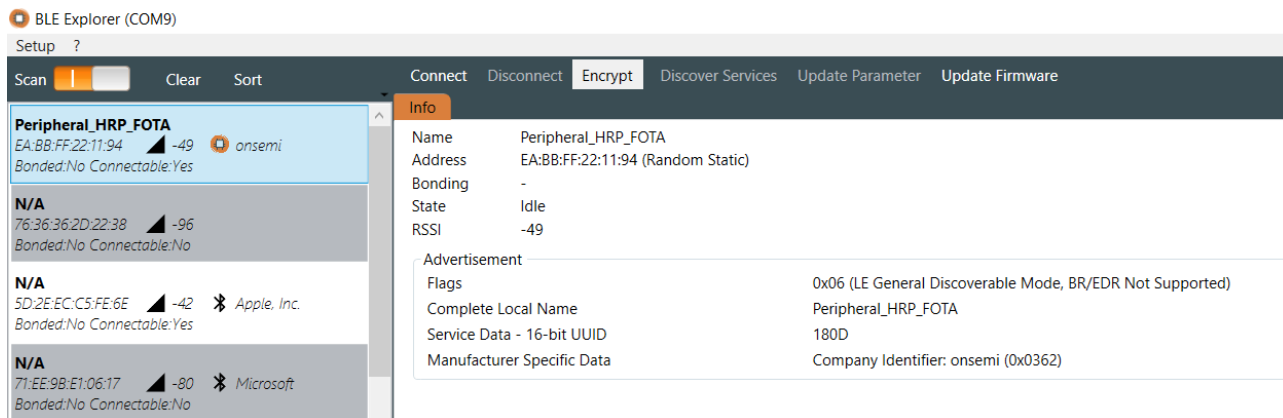

Figure 7. Firmware Running
- You can use the RSL10 Bluetooth Low Energy Explorer or another application to confirm that your new firmware is running and advertising under the name *Peripheral_HRP_FOTA*, as shown in the figure "Firmware Running" (Figure 7):